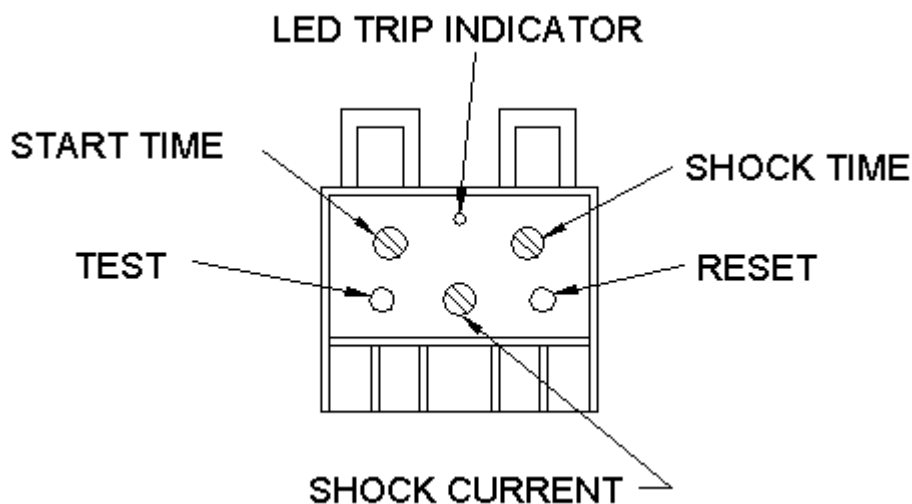

Figure 3-1. Parts of the Tsubaki Shock Relay
2. Set the SHOCK CURRENT (the center potentiometer shown in figure 3-1) to the FLA recorded in Step 1.
3. Set SHOCK CURRENT to 0 seconds (the potentiometer on right in figure 3-1)
4. Set START TIME to 5 seconds (the potentiometer on left in figure 3-1). Start the motor in hand mode. Stop the motor. Reduce the START TIME setting slightly (about 1/2 second). Start the motor in HAND mode. Stop the motor.
2. Set SHOCK TIME to 5 seconds (the potentiometer on right in figure 3-1)